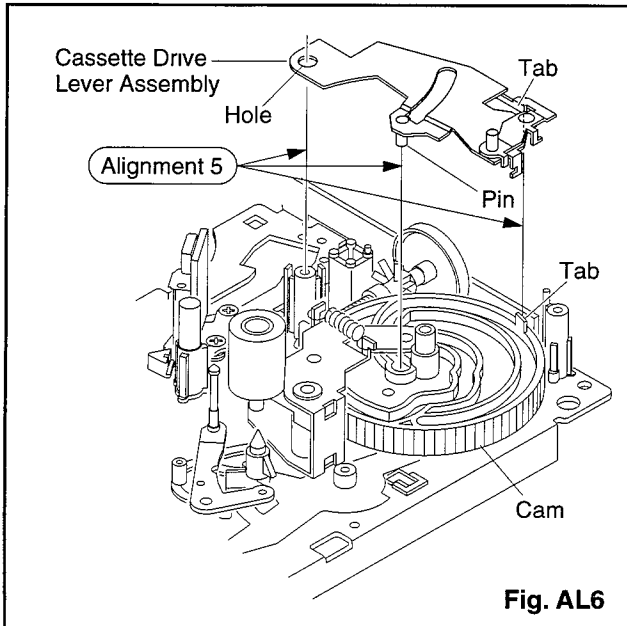

**Fig. AL5**
1. Ensure that the pin of the Pinch Roller Arm Assembly is positioned in the end of the groove of the upper Cam as shown in Fig. AL5.